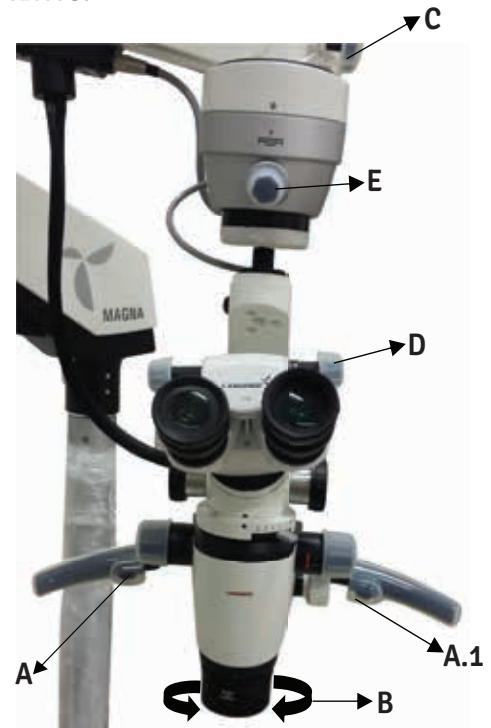

Fig. 19
- b. Optimize the Auto Balancing Arm (ABA) position by using clutch motions shown as (A) and (A.1) to get the proper field of vision as shown in Fig. 19.
- c. Desired working distance can be obtained by rotating the ring shown as (B) on the variable objective lens. Fine focusing can be done by the same ring as shown in Fig. 19.
- d. After focusing, lock swivel arm, suspension arm and ABA arm movements using lock knobs shown as (C) in Fig. 19.
- e. Adjust the inter-pupillary distance (IPD) of the eyepieces using the IPD adjustment knob shown as (D) in Fig. 19.
- f. The illumination is controlled through the intensity control knob shown as (E). Rotate it clockwise or anticlockwise to achieve the desired illumination level as shown in Fig. 19.
- c. Refer Fig 19 Use the Clutch Buttons shown as (A) on Left handle and (A.1) on Right handle to Centre the area of interest in the field of view.